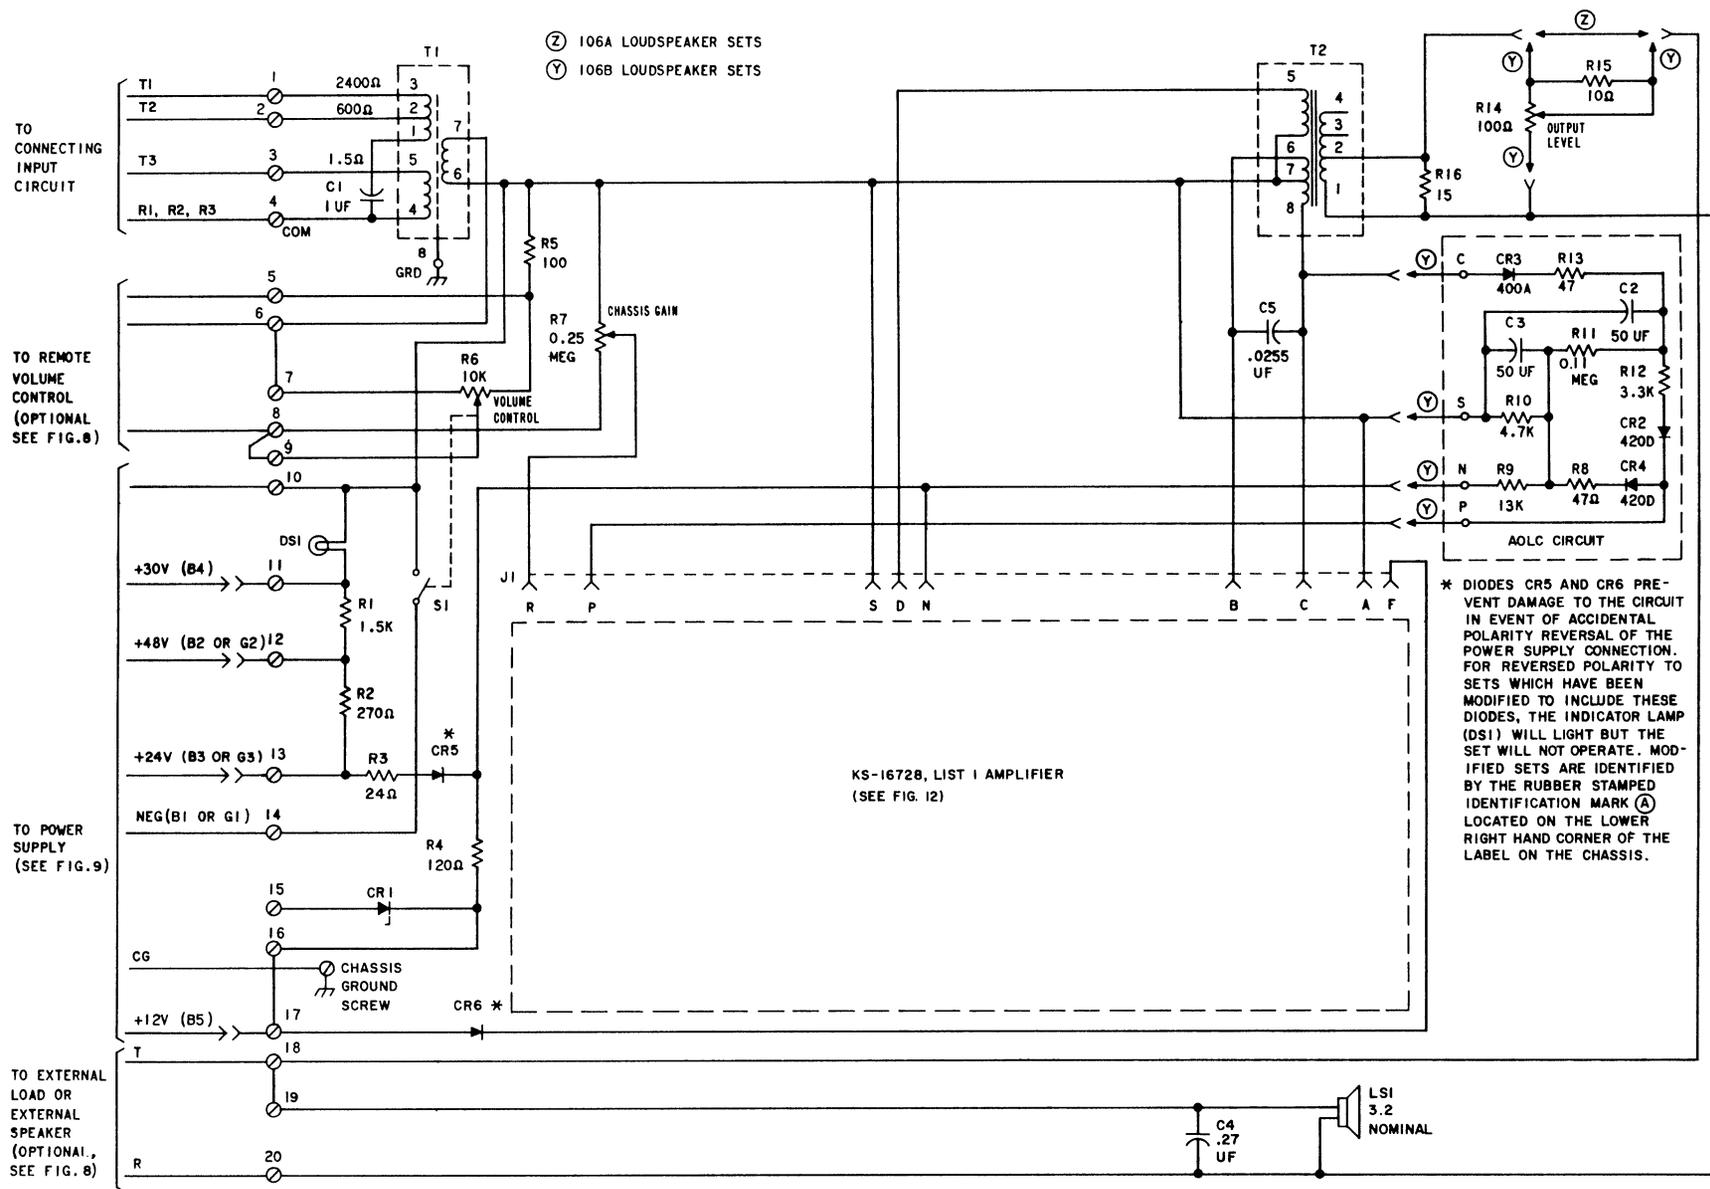

Fig. 10—Schematic—106A (MD) and B (MD) Loudspeaker Sets
- 4.01** Circuit schematics are provided in Fig. 10, 11, 12, 13, 14.
- (d) **Front Volume Control Arranged to Cut Off All Audio at Minimum Setting (Option N)—106A and B (MD) D and E:** Enable cutoff option by strapping terminals 5 and 10 together (Fig. 10 and 13).
- (e) **Front Volume Control Disabled (Option M, On-Off Switch Normal)—106A and B (MD) D and E:** To disable volume control, remove strap between terminals 8 and 9. Strap together terminals 7 and 8 (Fig. 10 and 13).
WHEN REPLACING A SERIES 4 AMPLIFIER WITH EITHER A SERIES 5 OR A SERIES 6, MAKE THE FOLLOWING CHANGES TO THE LOUSPEAKER SET CIRCUIT (SEE FIG. 10 AND 11):